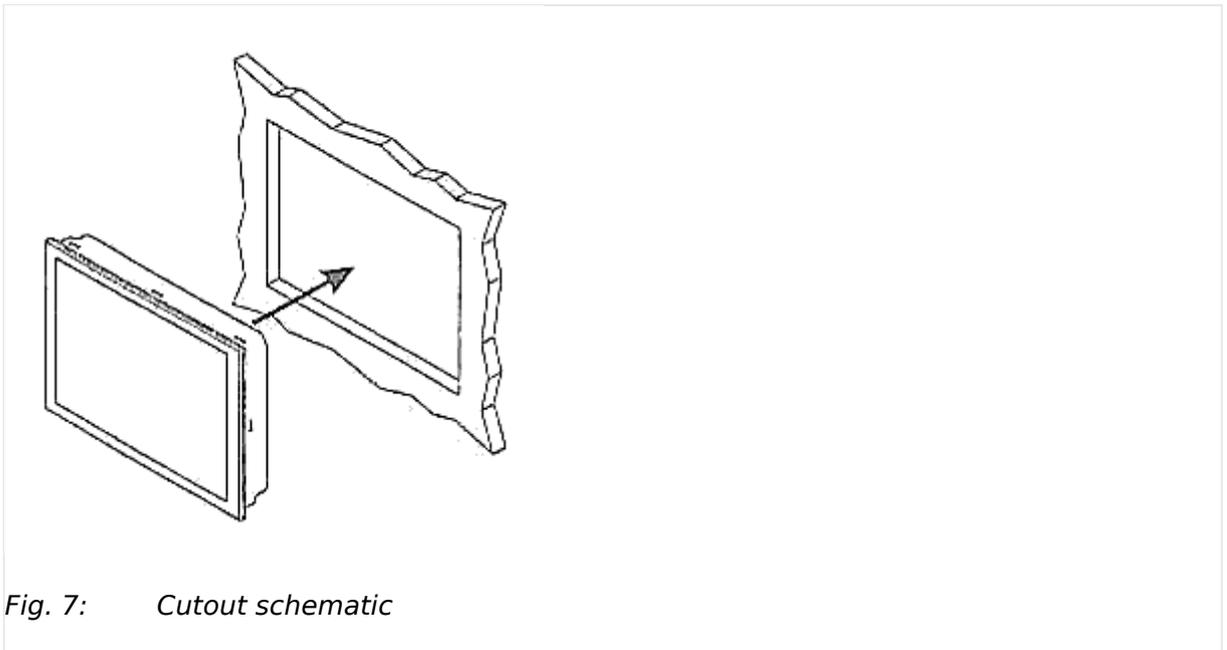

Fig. 7: Cutout schematic
1. ▷ Cut out the panel according to the dimensions in  Fig. 7.